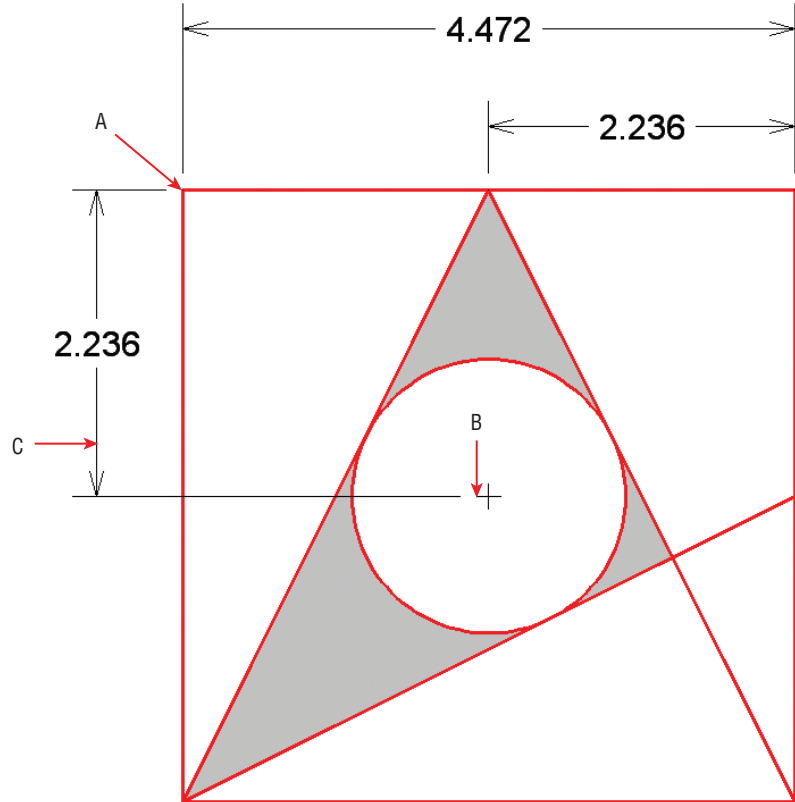

FIGURE 11.15 Creating another linear dimension
6. Type **DIMLIN** (the alias for the DIMLINEAR command), and press Enter. Click points A, B, and C, as shown in Figure 11.15.